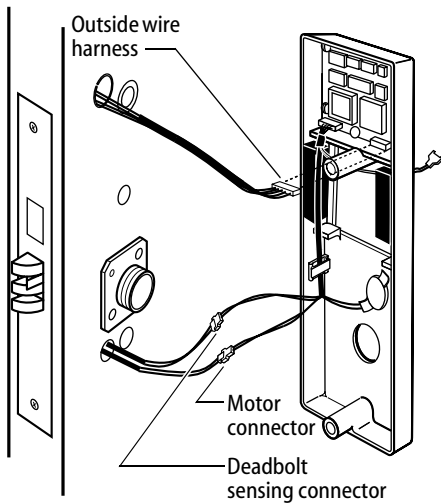

Figure 12
- From the inside of the door, connect the motor connector and the optional deadbolt sensing connector to their mating connectors from the circuit board (see Figure 12).